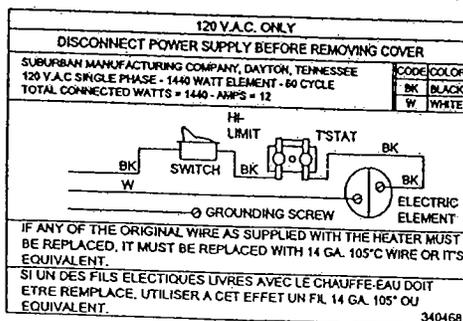

Figure 9
D. Check rating plate and wiring diagram (Figure 9) before proceeding. Install a fused safety switch or circuit breaker of adequate capacity between heater and electrical power source. Attach the black and white wires from the fused switch or breaker to corresponding colored wires in heater junction box. A green wire from a well grounded source must be attached to the green nut in the junction box.